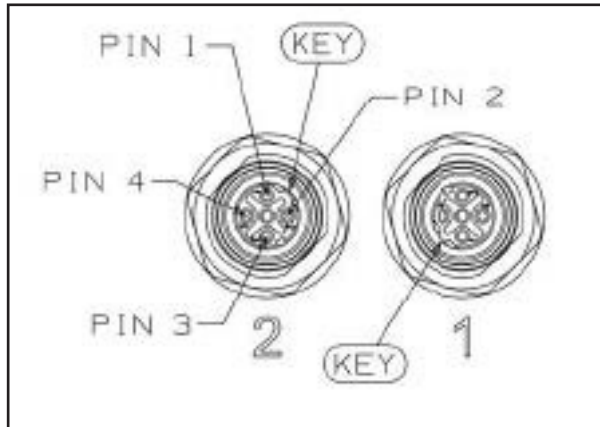
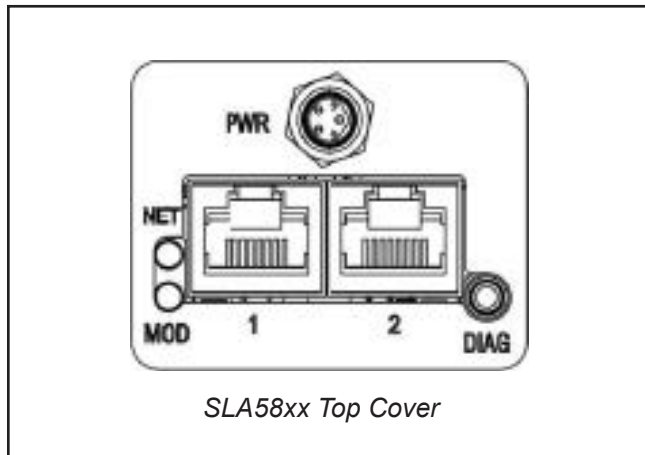

Figure 4-1 Pin Labeling of M12 Female Connectors (2 per device)
Figure 4-4: PROFINET Top Cover SLA5800
- In and Out M12 threaded female connectors labeled “1” and “2” for PROFINET™ Communications (Figure 4-1).
The available physical interfaces on the PROFINET™ SLA5800 Device are listed below (Figure 4-4):
As noted in the Physical Interface Sections, above, each SLAMf device has (2) M12 4 Pole, Female “D” Coded Connectors (Figure 4-1) labeled 1 and 2. Network connections can be made to either, or both, ports, depending on the network topology. And each SLA5800 Series PROFINET™ device has (2) RJ-45 Ethernet Connection ports (Figure 4-4). The SLA5800/SLAMf Series PROFINET™ device will support star and linear. It does not support DLR (Device Level Ring) topology.